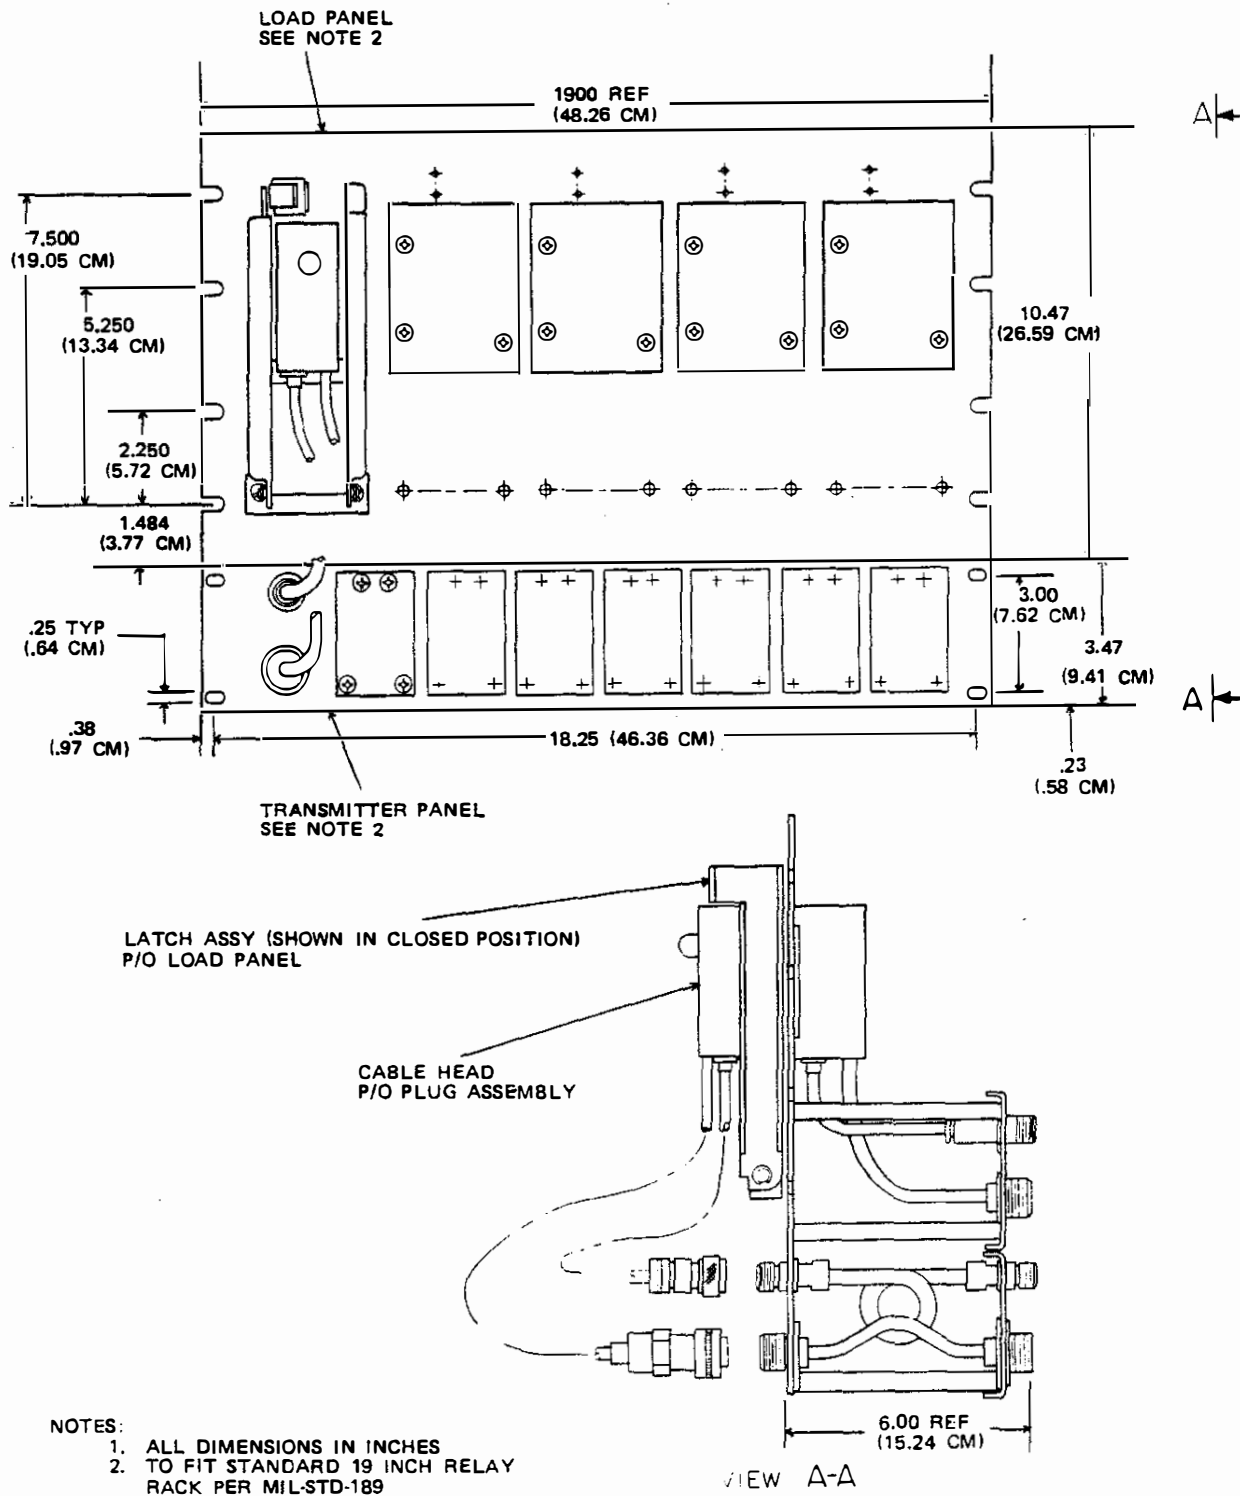

Figure 2-1. Patch Panel Installation
2-4. Install load panel (figure 2-1) into rack and secure using eight (8) #10-32 UNF-2A bolts and appropriate washers and lock washers (hardware not supplied with patch panels). Tighten to a maximum torque of 25 inch-pounds.
2-5. Install transmitter panel (figure 2-1) and secure using four (4) #10-32 UNF-2A
2-6. Attach plug assembly cable (figure 2-1) plugs at transmitter panel and slide plug assembly cable head into latch assembly on load panel. Ensure plug assembly cable head is fully inserted into latch assembly (rests on stop) and that detent pin secures it in place. Swing latch assembly until plug assembly cable head jacks mate with load panel plugs.